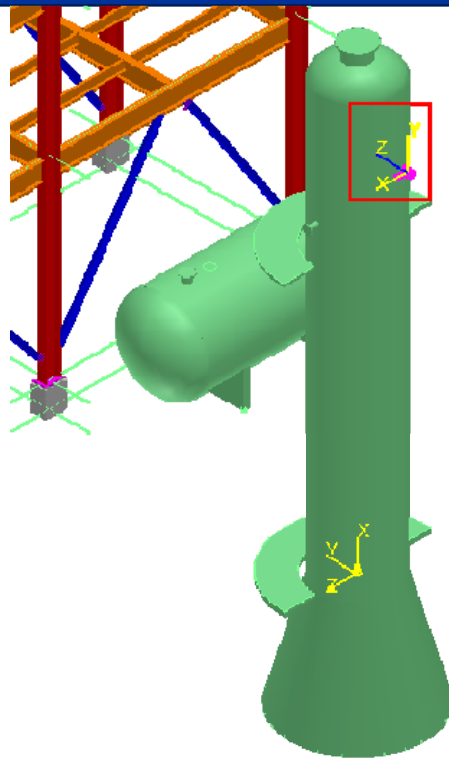

Figure 20: Nozzle Vessel Noz2 Selected
1. Select the nozzle **Vessel Noz2** on the equipment **T-162** in the model, as shown in Figure 20.